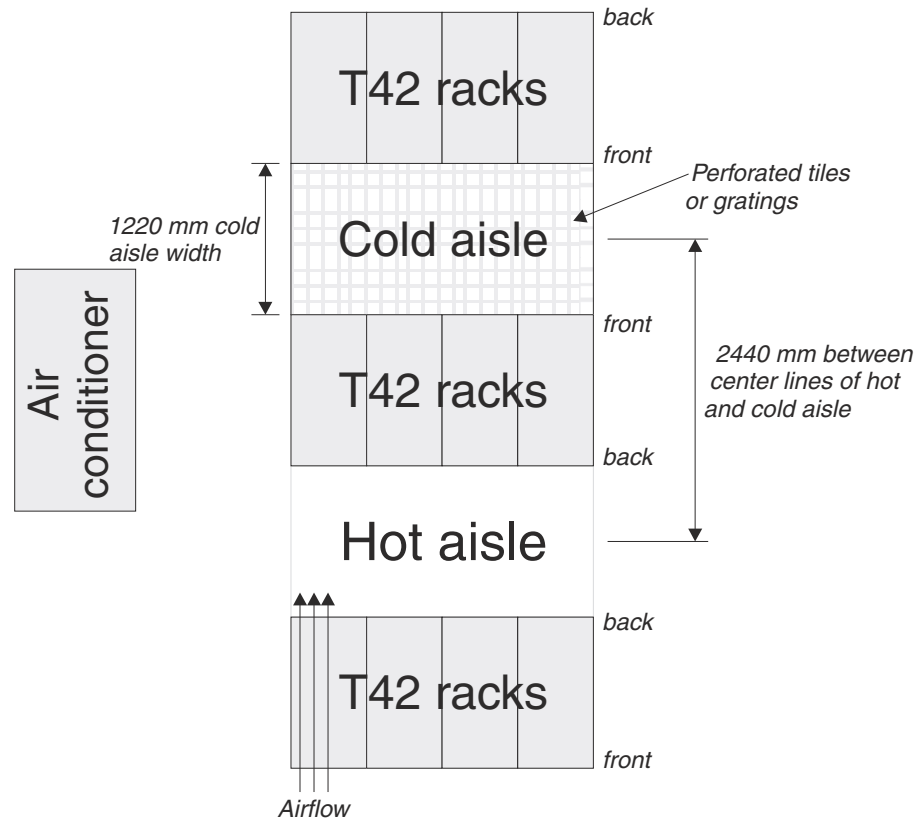

Figure 7. Example of Cold Aisle/Hot Aisle Rack Configuration
- Air enters at the front of the rack and leaves at the back. To prevent the air that is leaving the rack from entering the intake of another piece of equipment, racks must be positioned in alternate rows, back-to-back and front-to-front. This arrangement is known as “Cold Aisle / Hot Aisle” and is shown in Figure 7 on page 13.